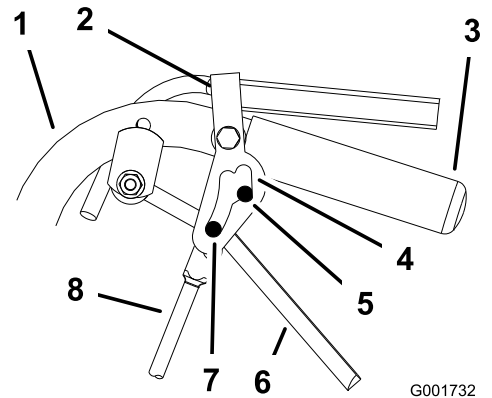

Figure 43
5. Release and engage neutral lock checking that the tire does not rotate (Figure 43). Continue this process until the tire does not rotate.